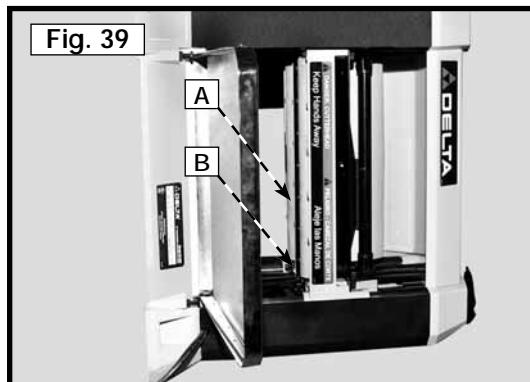

Fig. 39
Position the machine on its end (Fig. 39). Place 2 drops of 30 weight oil on the shaft (A) Fig. 39 at the bearing block (B). Allow the oil to flow into the bearing block.